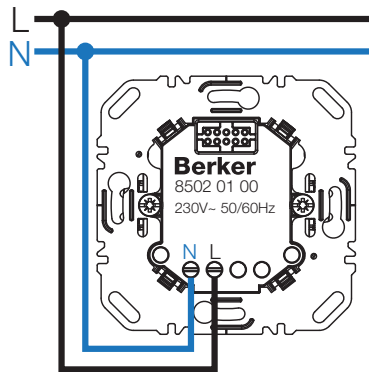

Figure 2: Power supply circuiting diagram
- Connect power supply according to circuiting diagram (Figure 2).